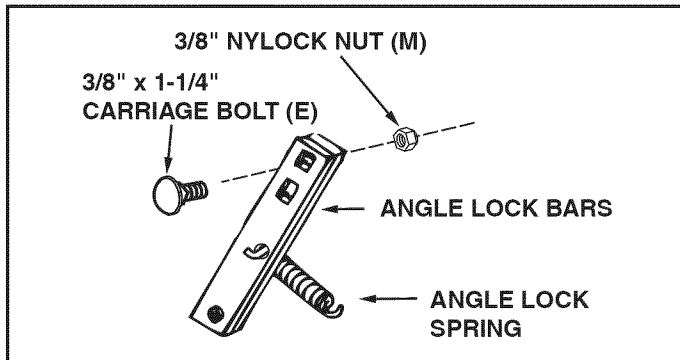

FIGURE 15 (Right Hand Side View)
### STEP 1: (SEE FIGURE 15)
- Assemble a 3/8" x 1-1/4" carriage bolt (E) through the square hole in the cable mount bracket and through the square hole in the angle lock bars. (The carriage bolts should face in opposite directions.) Using pliers hold the cable mount bracket in position, angling down towards the L.H. hole in the channel as shown in figure 15. Secure with a 3/8" nylock nut (M). **Tighten.** Refer to the figure for the correct angle for the cable mount bracket.